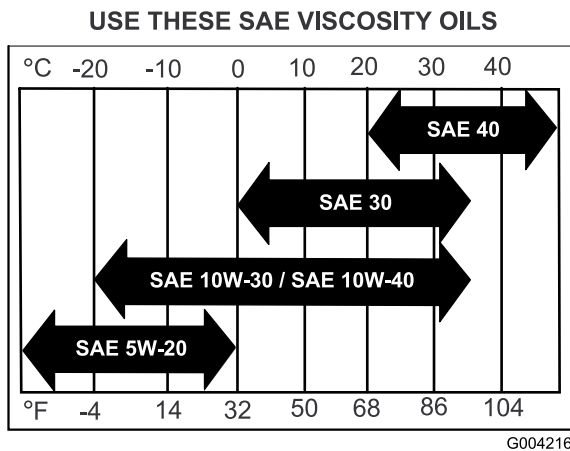

Figure 24
**Viscosity:** Refer to the table (Figure 24).